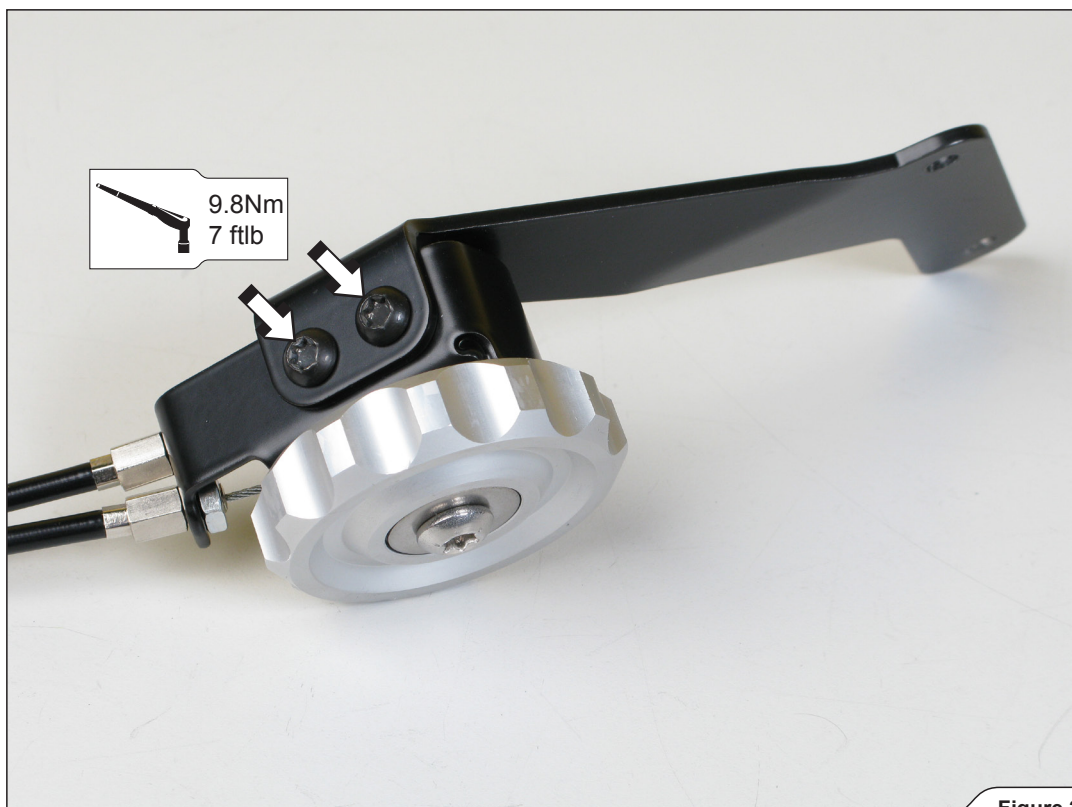

Figure 2
3. Assemble the additional bracket and valve switch, using M6x12 bolts from Akrapovič installation kit (**Figure 2**).